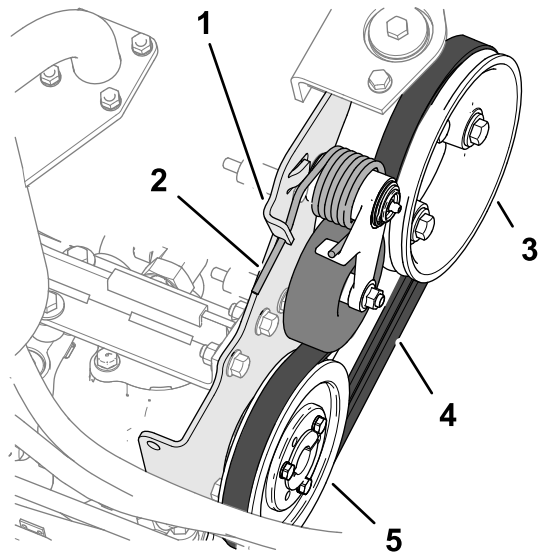

Figure 81
2. Push down the end of the belt-tension spring down and out of the notch in the tab of the pump mount, and move the spring end forward (Figure 81).